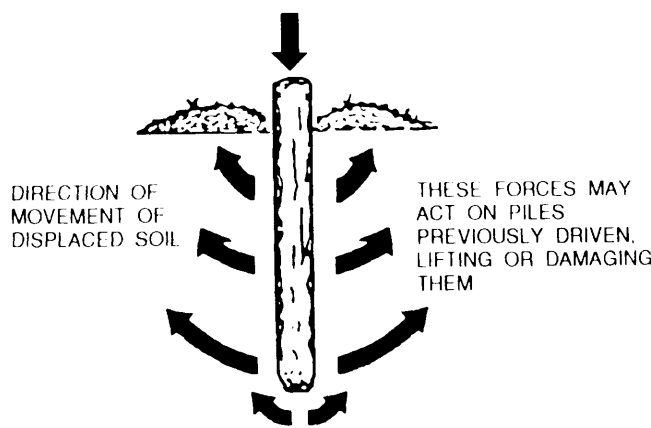

Figure 12-68.-Displacement of clay soil caused by driving solid piles.
2. Clay soils are hard to compress in pile driving; hence, a volume of soil equal to that of the pile will usually be displaced (fig. 12-68). The ground will heave between and around the piles. Driving a pile alongside those previously driven will frequently cause those already in place to heave upward. If the piles are driven through a clay stratum to firm bearing beneath, the heave may destroy the contact between the tip of the pile and the firm stratum. Such cases maybe detected by taking a level reading on the top of the piles previously placed. Piles which are raised appreciably should be redriven to a firm bearing. Soil displaced by the pile may cause enough lateral force to move previously driven piles out of line.